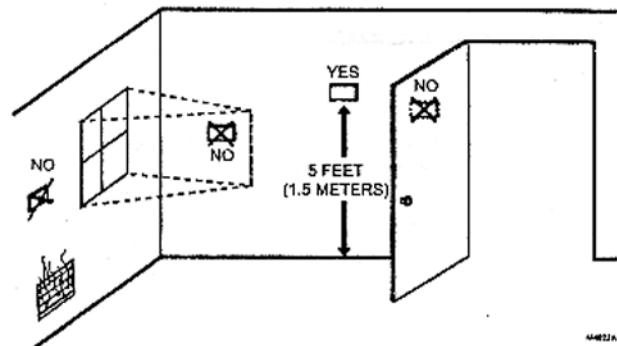

Fig. 1. Typical sensor location.
1. Install the sensor about 5 ft (1.5m) above the floor in an area with good air circulation at average humidity and temperature. (See Fig. 1.)